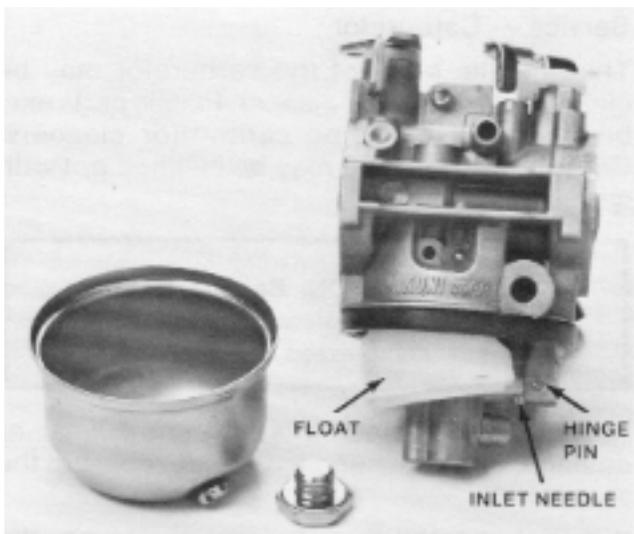

Figure 3-9
- Hook the inlet needle into the float and secure the float and needle in place with the hinge pin. See Fig. 3-9.